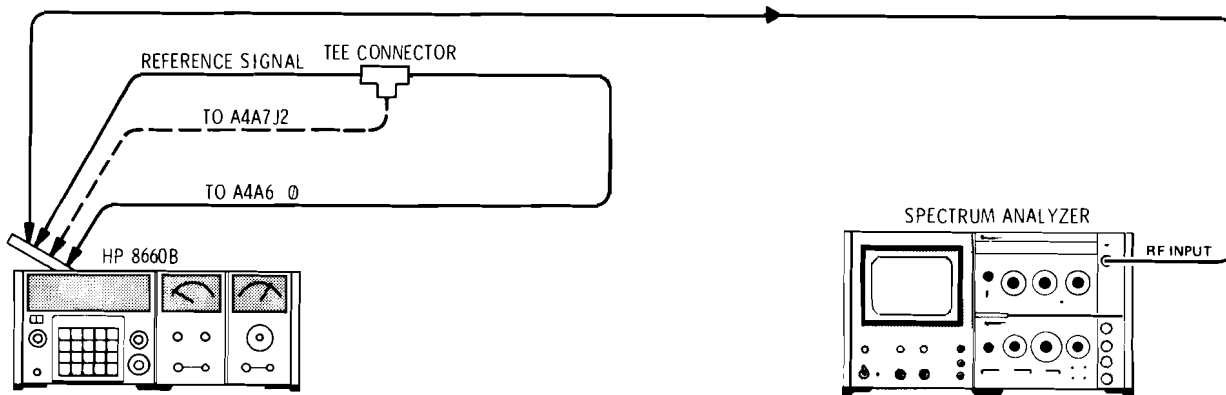

Figure 5-10. 10 MHz Trap Adjustment
5. 10 MHz Trap Adjustment. (See Figure 5-10).